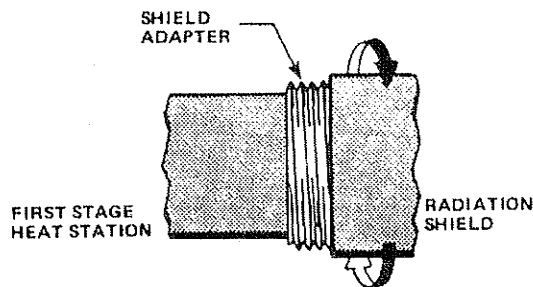

Figure 14 Remove Radiation Shield
5. Unscrew the radiation shield from its adapter on the first stage heat station. See Figure 14.